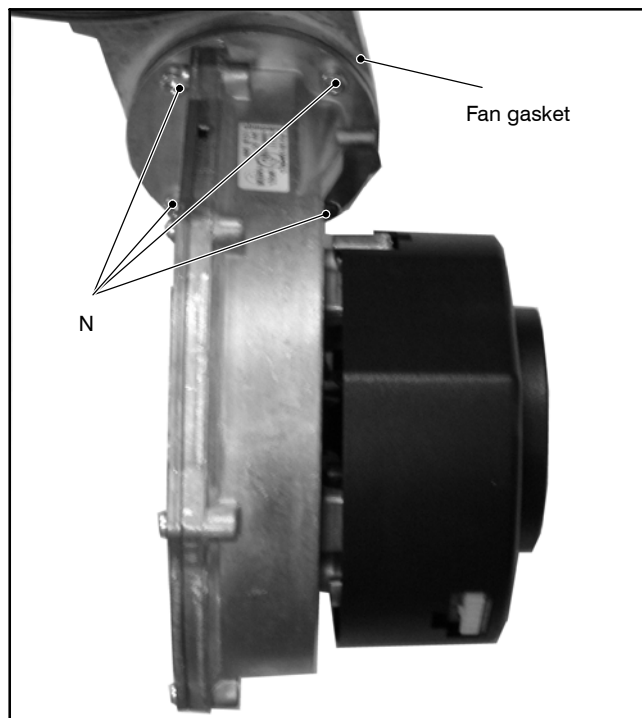

Fig. 17.7
- 2 Unscrew the screws *N* (Fig. 17.7).